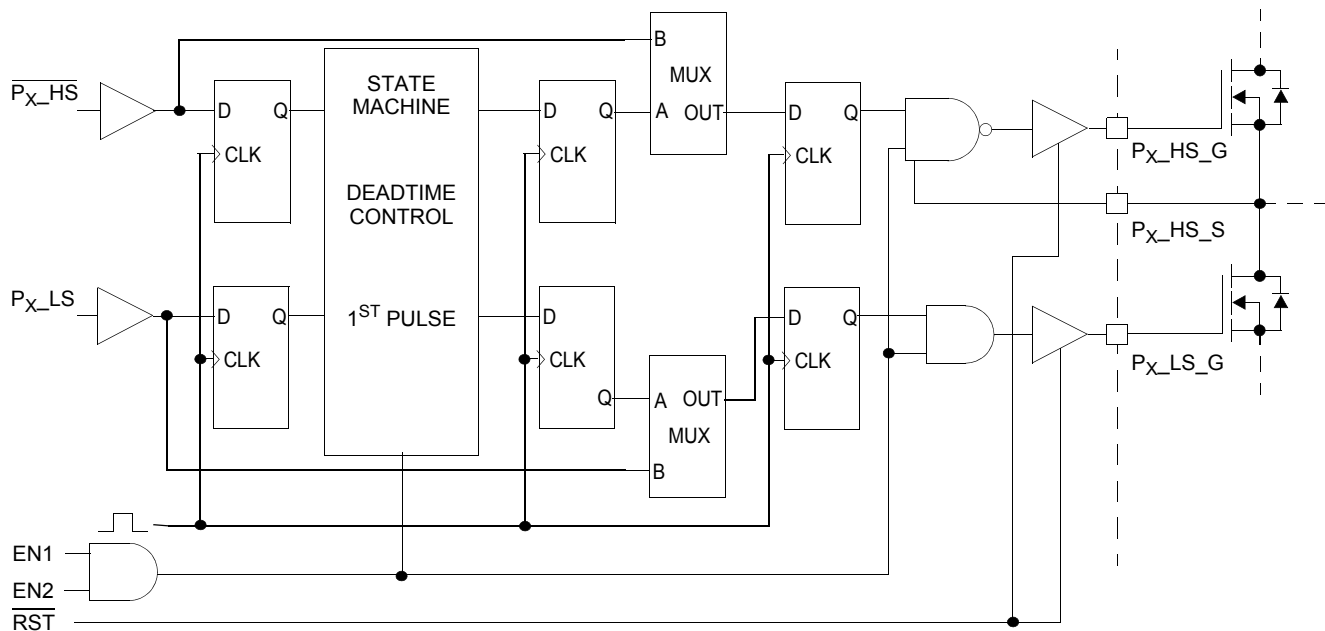

Figure 6. Deadtime Control Delays
43. These delays include all logic delays except deadtime. All internal logic is synchronous with the internal clock. The total delay includes one clock period for state machine decision block, an additional clock period for FULLON mux logic, input synchronization time and output driver propagation delay. Subtract one clock period for operation in FULLON mode which bypasses the state machine decision block. Synchronization time accounts for up to one clock period of variation. See Figure 6.